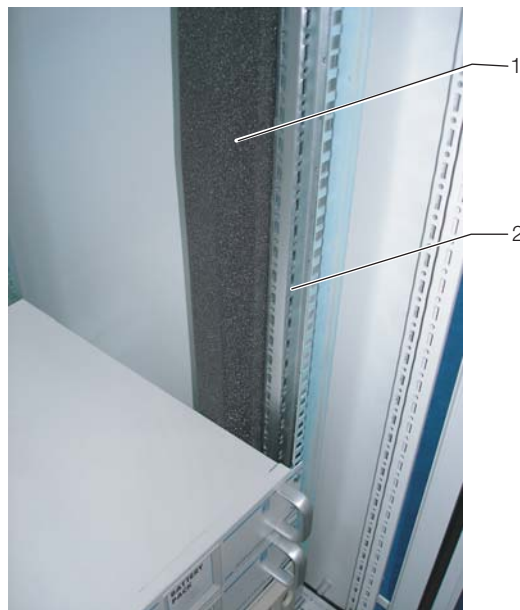

Fig. 19: Foam strip on a server rack support
- Fasten the broader (Model No. SK 3301.370/3301.320) of the two foam strips from the Liquid Cooling Package Plus accessories from outside onto one of the front supports of the server rack (cf. Fig. 19). Make sure to install this strip on the side of the server enclosure onto which the Liquid Cooling Package Plus is to be bayed.
- Fasten the smaller (Model No. SK 3301.380/3301.390) of the two foam strips from the Liquid Cooling Package Plus accessories from outside onto one of the front supports of the server rack (cf. Fig. 19). Make sure to install this strip on the side of the server enclosure which will again be sealed by a side panel.